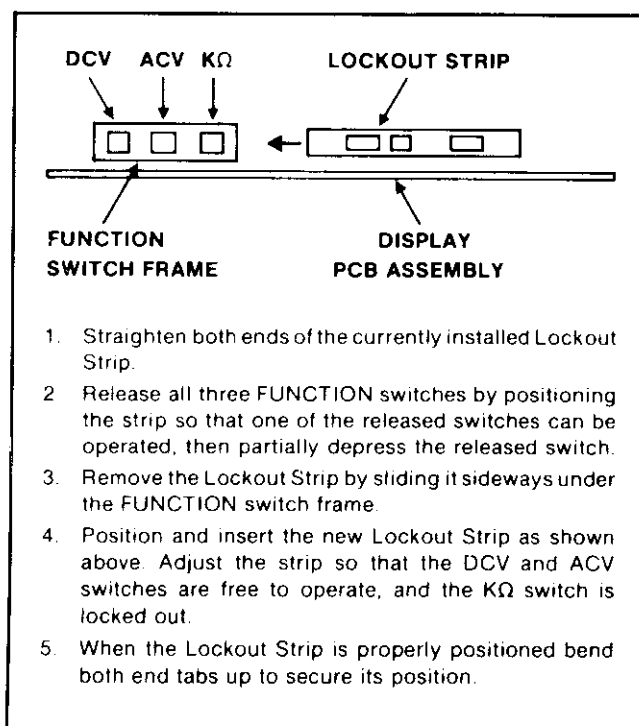

Figure 608-1. Lockout Strip Installation Instructions
2. Determine the measurement functions that will be available when the AC Converter is installed, i.e., DCV and ACV or DCV, ACV, and  $\text{k}\Omega$ . If  $\text{k}\Omega$  is not available, prepare and install the Lockout Assembly as shown in Figure 608-1. If the Ohms Converter (Option -007) is installed, the Lockout Assembly is not required. In this case, complete only steps 1, 2, and 3 of Figure 608-1.